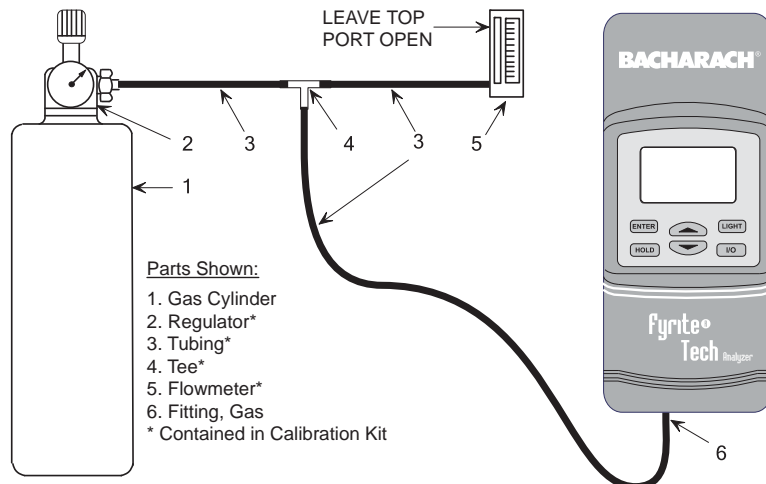

Figure 5-1. Calibration Kit Hookup
5. Connect the tubing of the Calibration Kit to the inlet of the analyzer; then adjust the regulator for approximately 2 SCFH of excess flow (see Figure 5-1).
6. Connect the tubing of the Calibration Kit to the inlet of the analyzer. Then adjust the regulator for approximately 2 SCFH of excess flow (see Figure 5.1).